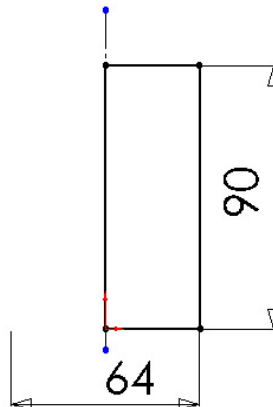

Figure 3 Cranking Lever Head Sketch
13. Select **Line**  on Sketch Tools toolbar, and draw and dimension a profile of the cranking lever head as shown in Figure 3.